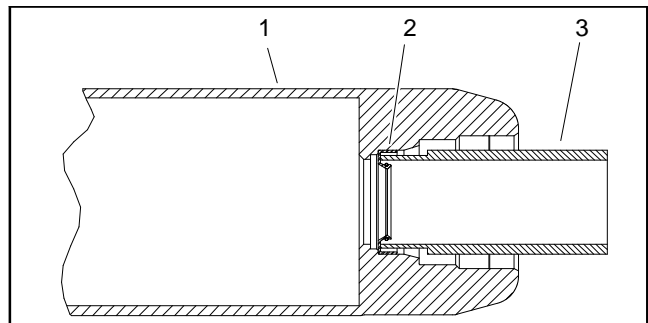

Figure 35
1. Install inner seals into roller tube making sure that seal lip (and garter spring) faces end of tube. Use inner seal tool (see Special Tools) and soft face hammer to fully seat seals against roller shoulder (Fig. 35). Apply a small amount of grease around the lip of both inner seals after installation.